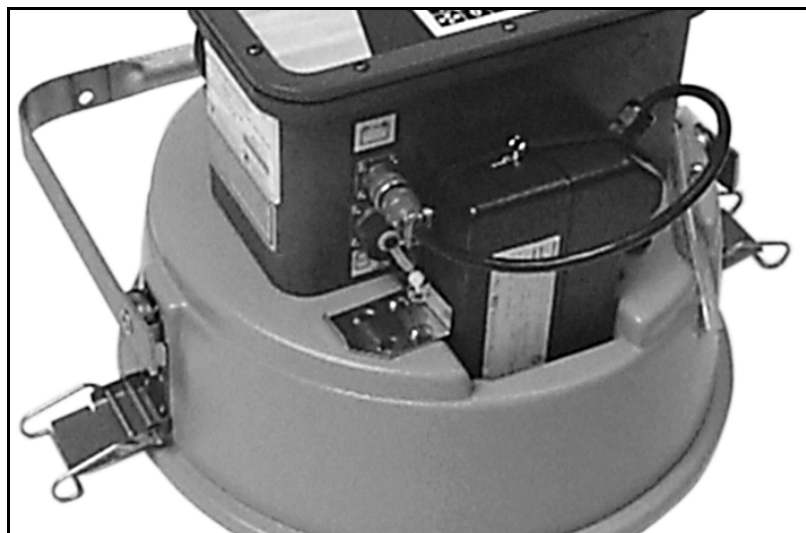

Figure 2-3 Model 946 lead-acid battery installed
1. Place the power source into the center section recess. Refer to the Figure 2-3 for the correct position: